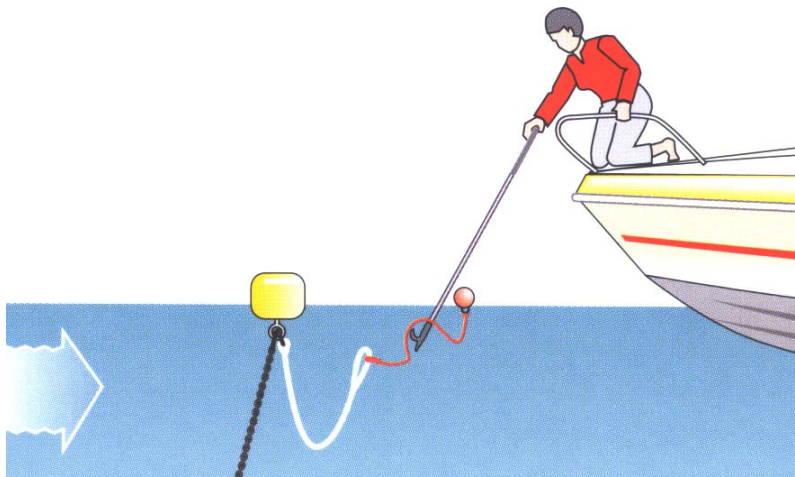

Figure 3 Bring the Picking Up Buoy Line Aboard
- once the powerboat is stopped, hook the picking up buoy line with the boathook and bring it aboard (as illustrated in Figure 3); and